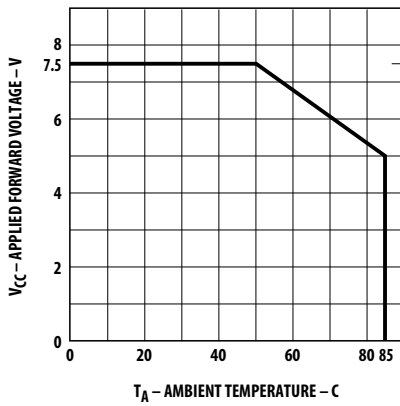

Figure 3. Maximum allowed applied forward voltage vs. ambient temperature $R\theta_{JA} = 175^{\circ}\text{C}/\text{W}$. 5 volt devices.
- Derate from $T_A = 50^\circ\text{C}$ at $0.071 \text{ V}/^\circ\text{C}$, see Figure 3.